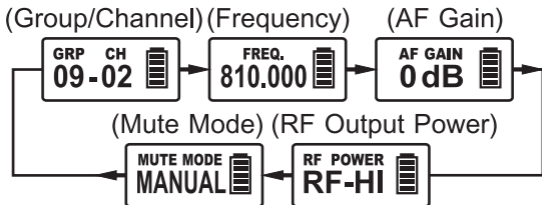

Fig. 6
2. Press MODE button to access one of the 5 parameters below and press SET button to activate parameters for changing, Fig. 6.